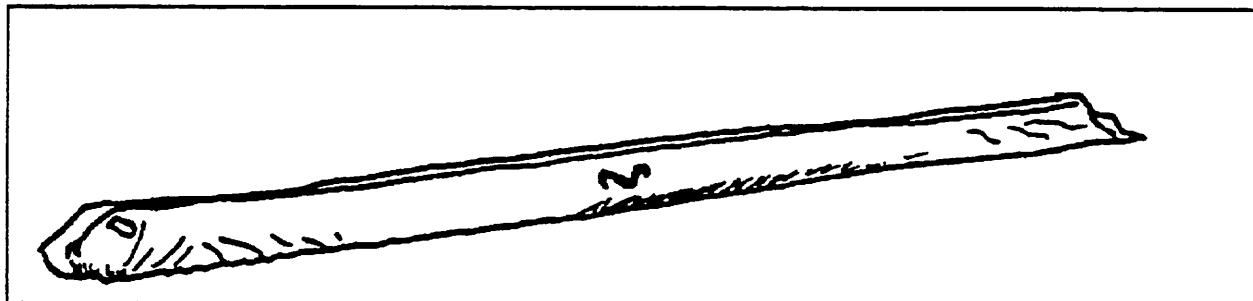

Figure 4
1) With the glider in the bag, lay the glider on the ground, zipper up with the nose into the wind. (Figure 4)